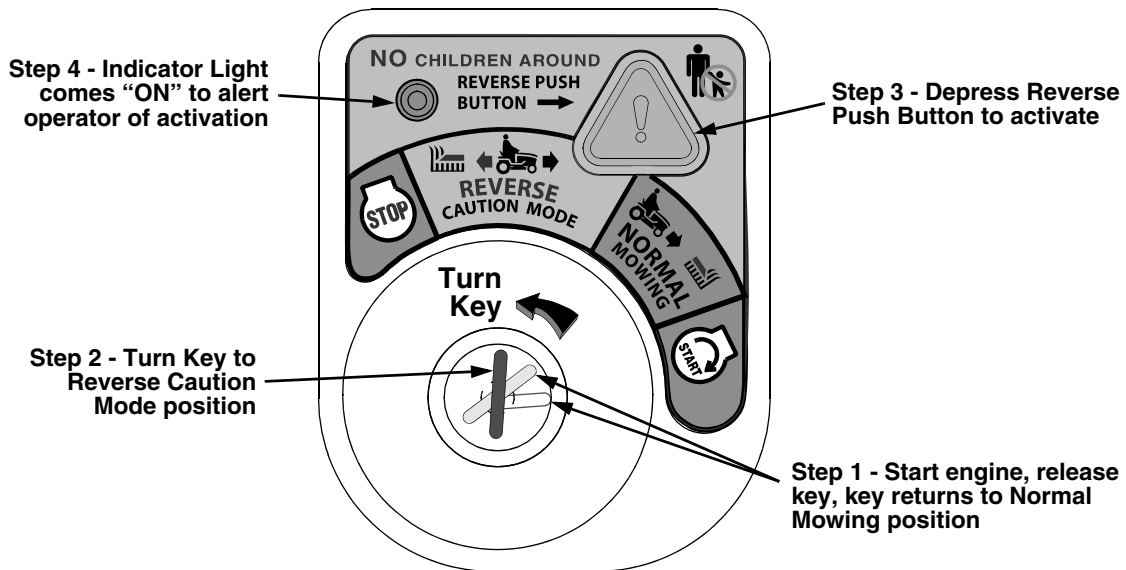

Figure 4-3
MODE” (Yellow) position of the key switch module. Refer to Figure 4-3.
3. Depress the “REVERSE PUSH BUTTON” (Orange/Triangular Button) at the top/right corner of the key switch module. The red indicator light at the top/left corner of the key switch module will be “ON” while activated. Refer to Figure 4-3.